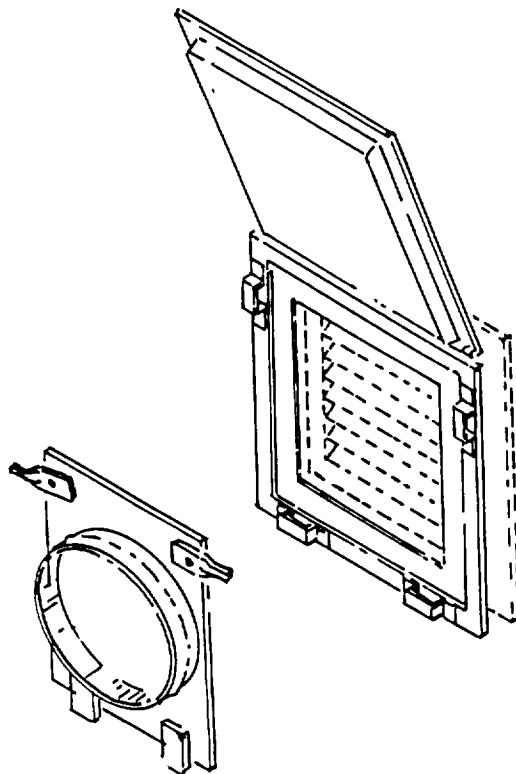

Figure 4-5. Shelter Adapters.
- g. Secure shelter adapter onto shelter. Refer to figure 4-5.